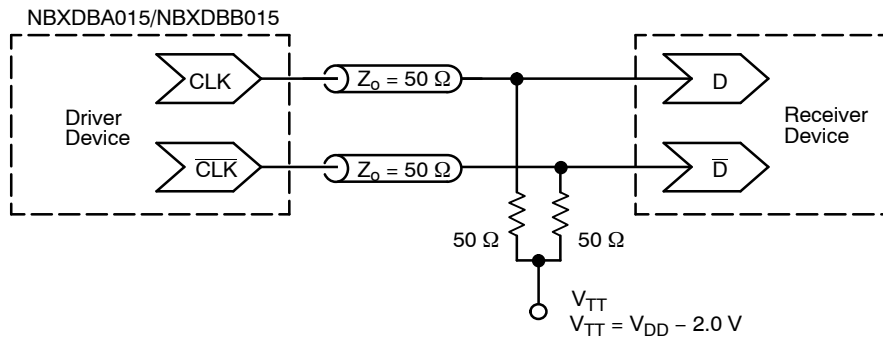

Figure 5. Typical Termination for Output Driver and Device Evaluation
2. Measurement taken with outputs terminated with 50 ohm to  $V_{DD}-2\text{ V}$ . See Figure 5.
3. Measurement taken with outputs terminated with 50 ohm to  $V_{DD}-2\text{ V}$ . See Figure 5.